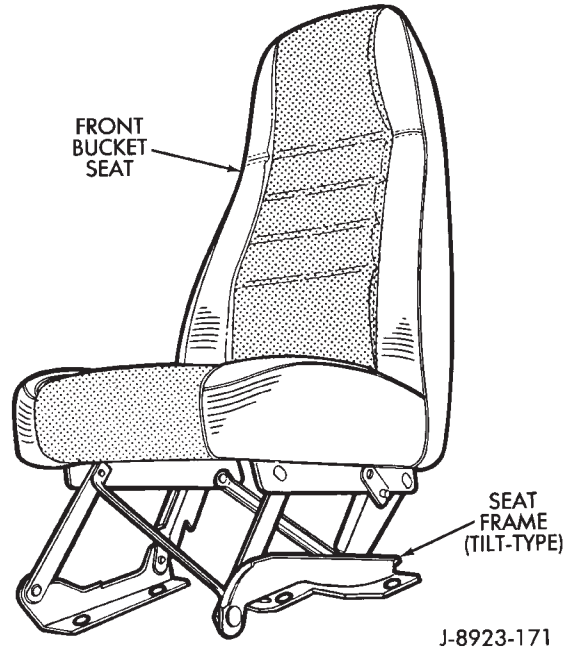

Fig. 21 Passenger-Side Bucket Front Seat
The passenger-side (RH), front bucket seat frame is the tilt-type (Fig. 21). The driver-side (LH) seat is fixed in-place.